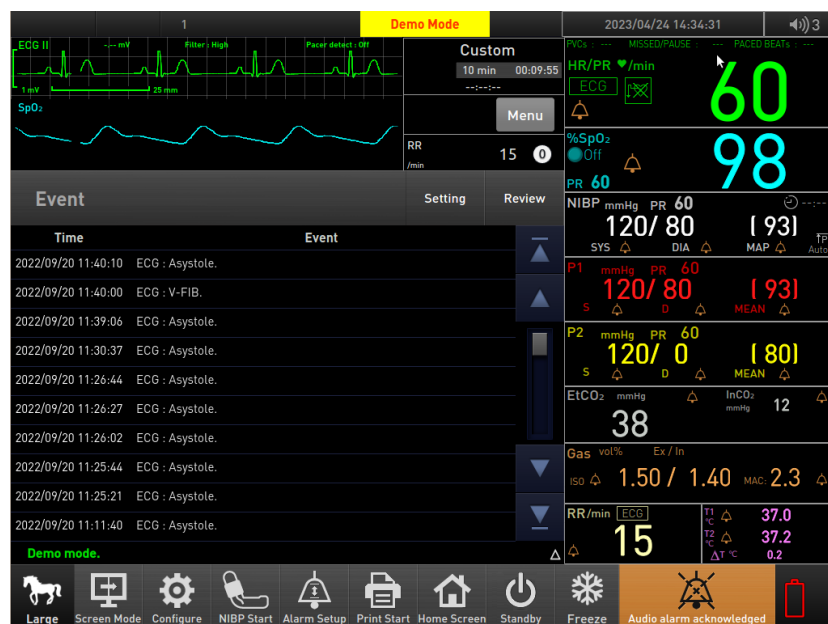

Figure 38. Event Review List Display
2. If event list icon is selected, event review list will be displayed (refer to Figure 38).